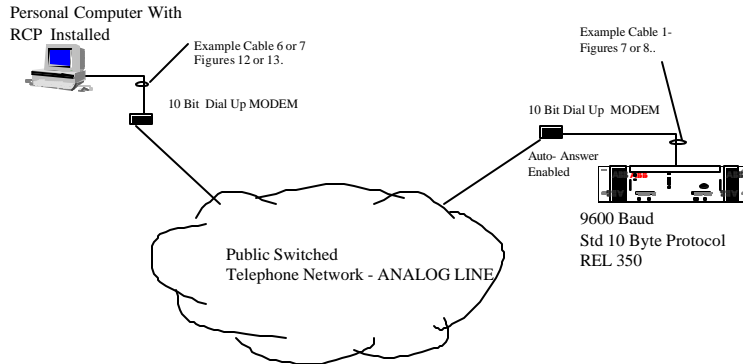
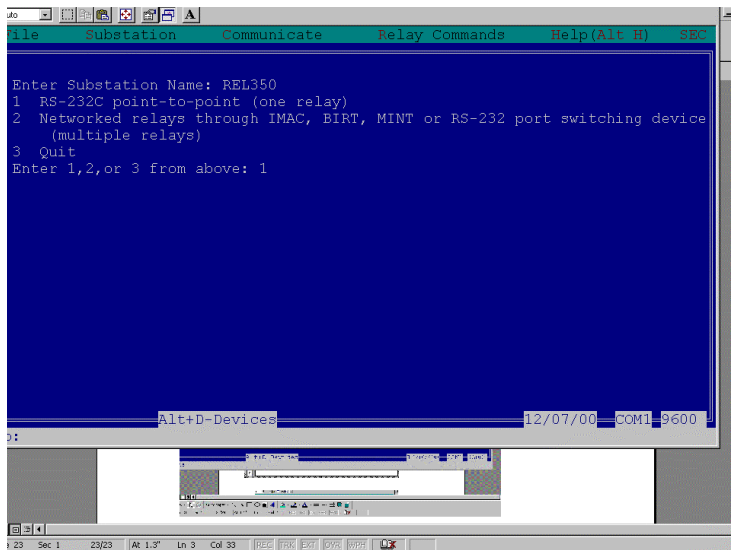

Figure 19 - RCP TO REL 350 Communicatation Topology Example
Figure 23 – Initial Substation Configuration Screen
If one wished to connect an ABB transmission relay such as a REL 300 (MDAR), REL 301, REL 302, REL 350, REL 352 or REL 356 to its configuration software (RCP – Remote Communication Program), using a dial up configuration as illustrated in Figure 19 is quite possible. The REL transmission relay uses a PONI R card for direct point to point communication via a cable or a modem. Please reference Instruction Leaflet 40-603 titled RCP Communication Program Users GUIDE and Instruction Leaflet 40-610 titled RS-PONI RS 232 Product Operated Network Interface User’s Guide.
2. Attach the correct cables as to the relay devices as indicated in Figure 19. In this example however, we shall disable handshaking (RTS/CTS) in the modem, so a straight through DTE to DCE cable is necessary.
As per Figure 19, connect the cables as indicated for the personal computer to modem and the REL 350 PONI R to modem connection. In this example, the handshaking shall be disabled on the PONI R card modem. Thus even using standard off the shelf cables (9 to 25 pin cables with each pin run straight through) shall operate in this example.
A file must be configured for the REL 350 connection. Since a PONI R card is not addressable, it is considered a point to point device. As illustrated in Figure 23, one must pick an option for the configuration . In our example (as shown in the topology of Figure 19), although the REL 350 is networked through a modem, the connection is still point to point, one must select the selection “1” to allow correct connectivity. Figure 23 illustrates the screen queries and answers for this specific example.